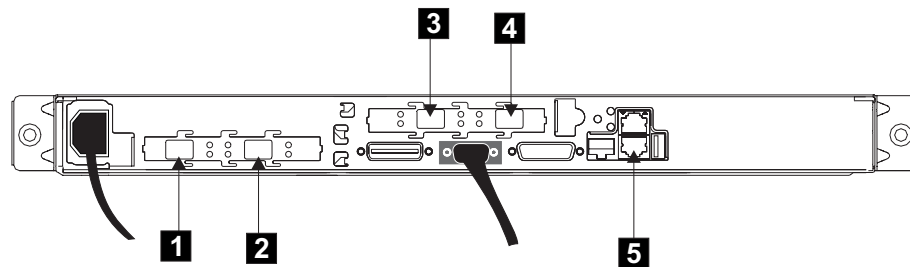

Figure 30. Connectors at the back of the SAN Volume Controller
1. Connect the Ethernet cable to the Ethernet port 1 **5**. See Figure 30.
2. Connect the fibre channel cables to the fibre channel ports **1**, **2**, **3** and **4** as required by the customer's configuration. See Figure 30. These numbers correspond to the numbers that are shown in the customer's cable connection table.